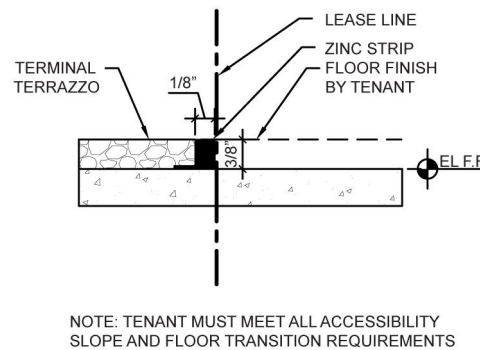

Figure 3.4E
1. The floor terrazzo finish provided in the building by SCDOA extends to the Tenant's lease line. Exception: At leaseholds BA-208 through BA-211, the terrazzo extends into the leasehold an additional 5" to allow the face of the Tenant's take-away counter to abut with the SCDOA-provided zinc strip. The Tenant may choose a flooring material within the leasehold that will match the level of the adjacent finished floor at the lease line. Should the Tenant choose to install a flooring material that is of a different height than the adjacent finish, the Tenant is responsible for providing a code compliant transition. *Reference Figure 3.4E.* Depressed floor slabs will not be permitted. All slab modifications must be approved by SCDOA and installed by a qualified Contractor.